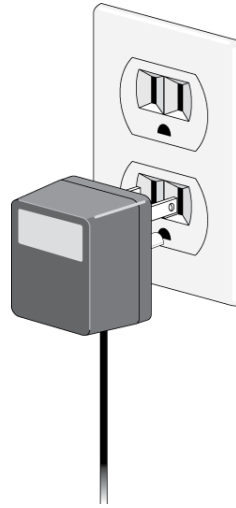

Figure 12. Plugging an AC/DC Adapter to a Power Outlet
3. Plug the AC/DC adapter to a power outlet, as shown in Figure 12. Refer to Appendix A, “Technical Specifications” on page 49 for power requirements.